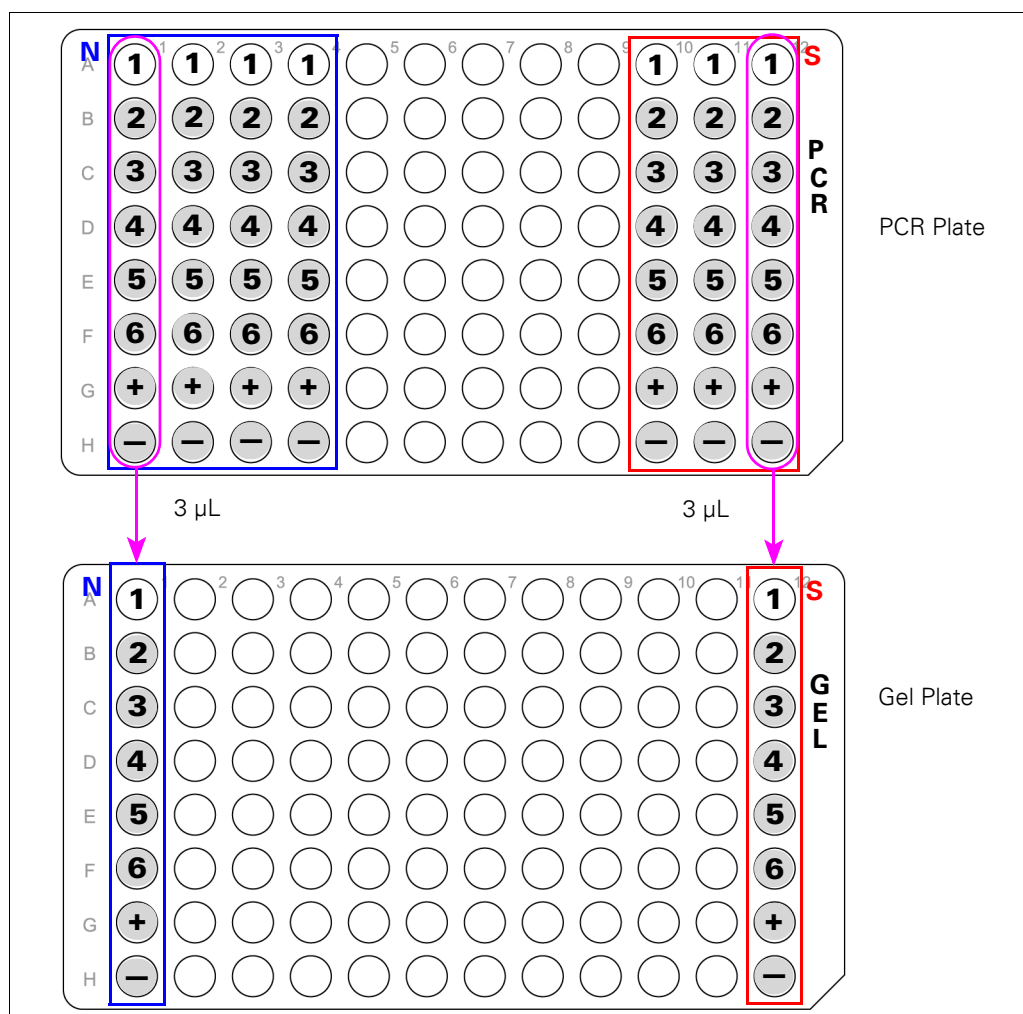

Figure 4.14 Transferring aliquots of each Nsp and Sty PCR product to the gel plate
4. Label a fresh 96-well plate as shown in Figure 4.14 on page 49.